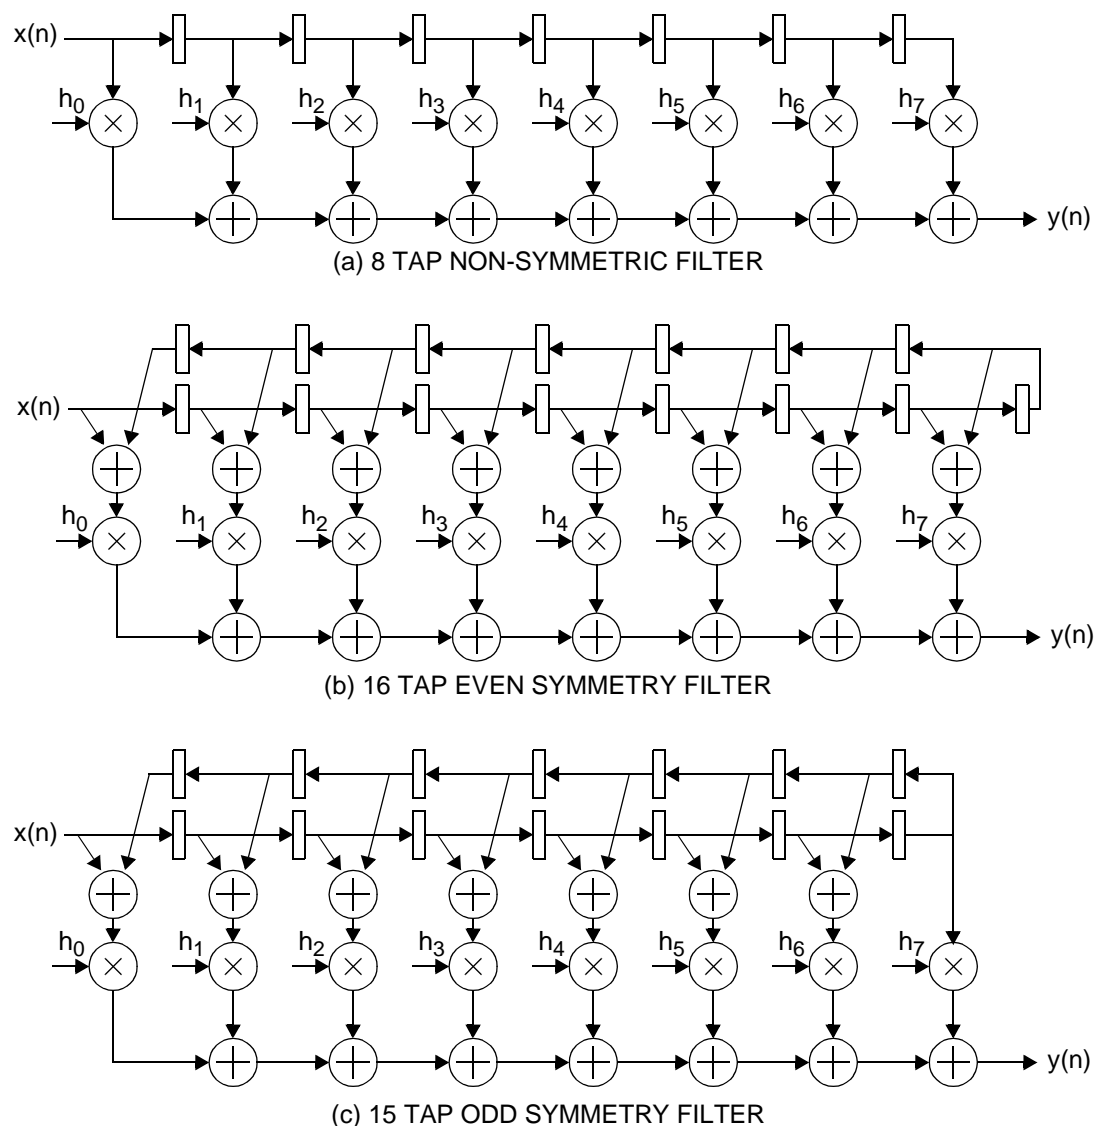

Figure 2. Basic Transversal Filters
where  $x(n)$  is the input sample at time  $n$ ,  $y(n)$  is the output sample at time  $n$ ,  $N$  is the number of taps in the filter and  $h(k)$  are the filter coefficients. Many common filters are symmetric, meaning the tap coefficients are symmetric about the center tap. For example, the 16 coefficients (1, 2, 3, 4, 5, 6, 7, 8, 8, 7, 6, 5, 4, 3, 2, 1) have even-length symmetry. The 15 coefficients (1, 2, 3, 4, 5, 6, 7, 8, 7, 6, 5, 4, 3, 2, 1) have odd-length symmetry. Figure 2 shows the basic transversal filter structure for an 8 tap non-symmetric filter, a 16 tap even symmetry filter and a 15 tap odd symmetry filter (actual GC2011A filter sizes are up to 256 taps).
The GC2011A chip implements the transversal filter structures shown in Figure 2 with the addition of pipeline delays to increase the maximum clock rate of the chip. The pipeline delays add latency to the chip but do not effect its operation.
The full rate filter implements Equation (1) using the structures shown in Figure 2. The control register settings which configure the chip in the full rate modes are tabulated below: